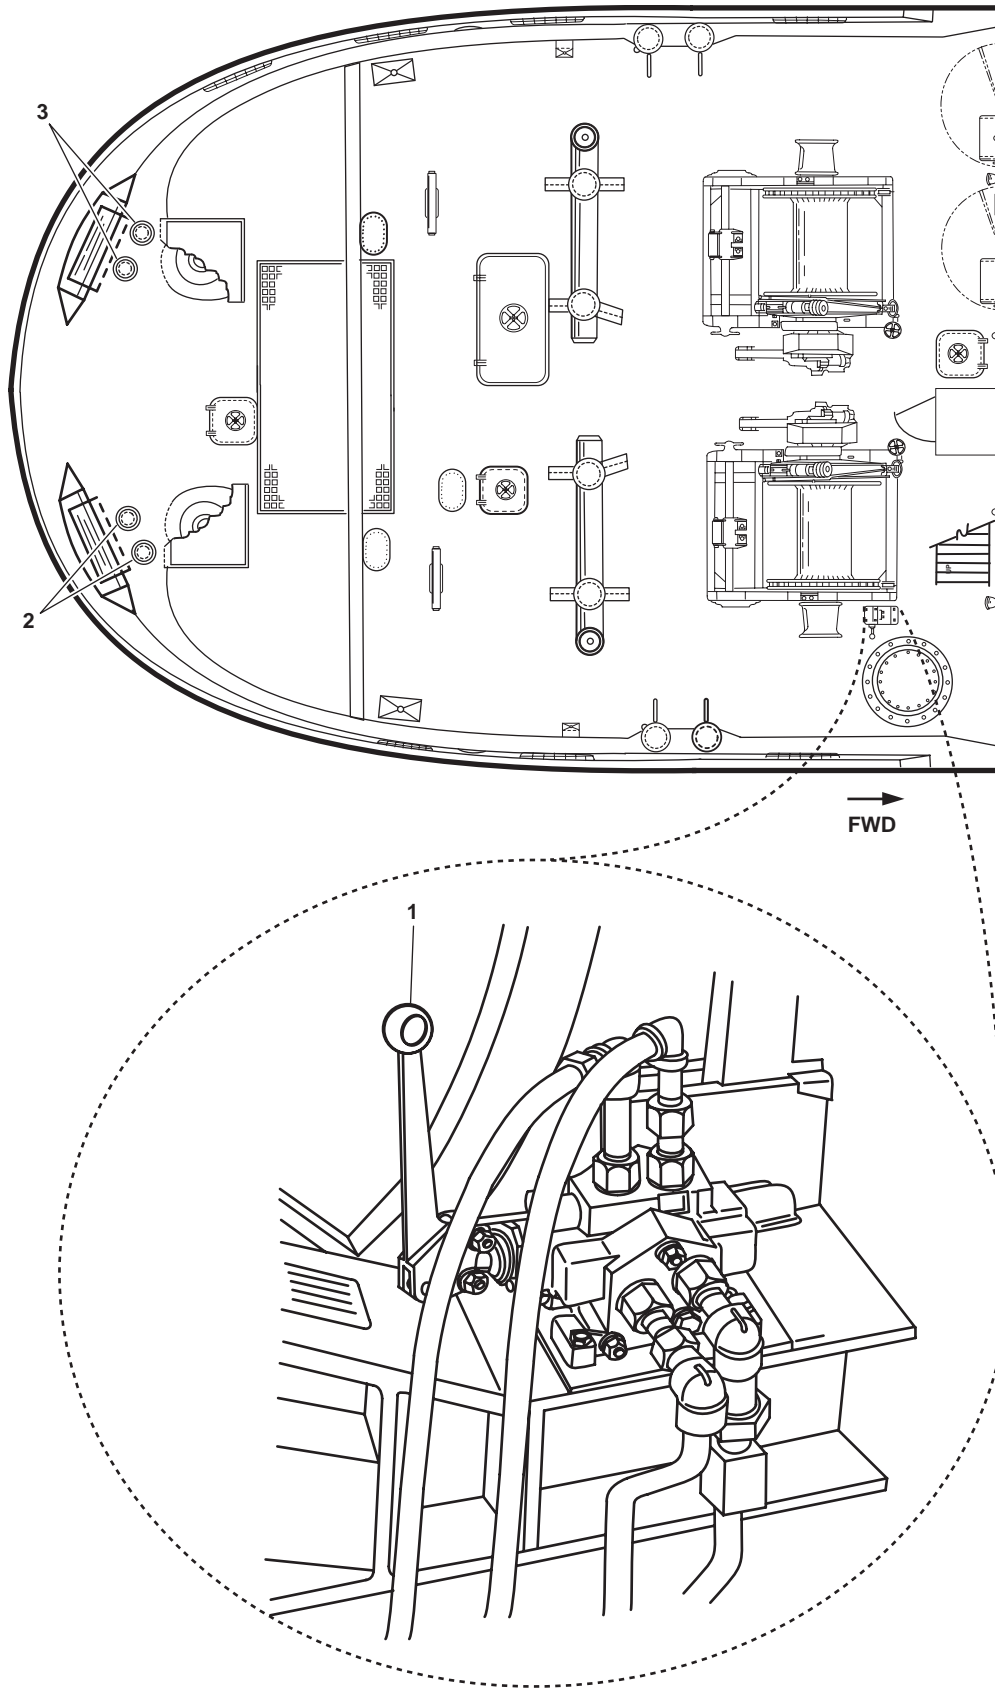

Figure 15. Capstan Operation
2. To operate the capstan, move the directional control valve handle (figure 15, item 1) by pushing or pulling in the desired direction (HEAVE or PAYOUT).
3. The rotational direction and speed of the capstan is controlled by throttling the directional control valve (figure 15, item 1).
5. To raise the starboard tow pins (figure 15, item 2), turn the OUTBOARD TOW PIN switch (figure 11, item 7) and the INBOARD TOW PIN switch (figure 11, item 8) on the towing machine operator control panel (figure 11, item 2) to the RAISE position and hold them in place until the starboard tow pins are fully extended. Release the OUTBOARD and INBOARD TOW PIN switches.
6. To raise the port tow pins (figure 15, item 3), turn the OUTBOARD TOW PIN switch (figure 11, item 9) and the INBOARD TOW PIN switch (figure 11, item 10) on the towing machine operator control panel (figure 11, item 2) to the RAISE position and hold them in place until the port tow pins are fully extended. Release the OUTBOARD and INBOARD TOW PIN switches.
7. To lower the starboard tow pins (figure 15, item 2), turn the OUTBOARD TOW PIN switch (figure 11, item 7) and the INBOARD TOW PIN switch (figure 11, item 8) on the towing machine operator control panel (figure 11, item 2) to the LOWER position and hold them in place until the starboard tow pins are fully retracted. Release the OUTBOARD and INBOARD TOW PIN switches.
8. To lower the port tow pins (figure 15, item 3), turn the OUTBOARD TOW PIN switch (figure 11, item 9) and the INBOARD TOW PIN switch (figure 11, item 10) on the towing machine operator control panel (figure 11, item 2) to the LOWER position and hold them in place until the port tow pins are fully retracted. Release the OUTBOARD and INBOARD TOW PIN switches.
1. Verify that the tow pins (figure 15, items 2 and 3) are in the desired position.